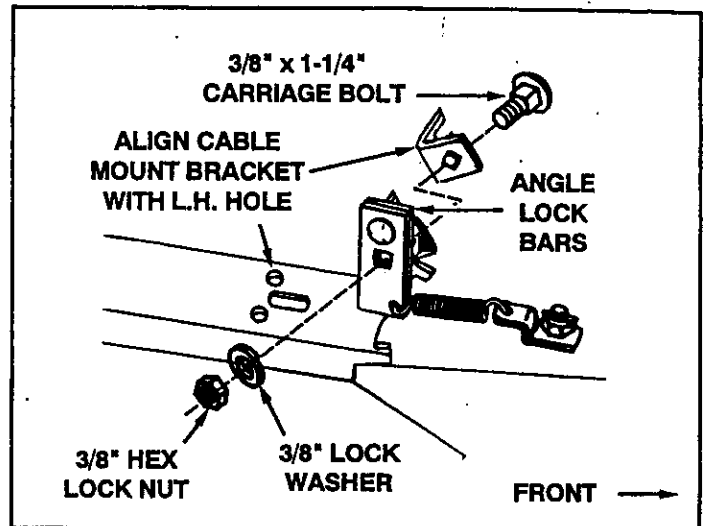
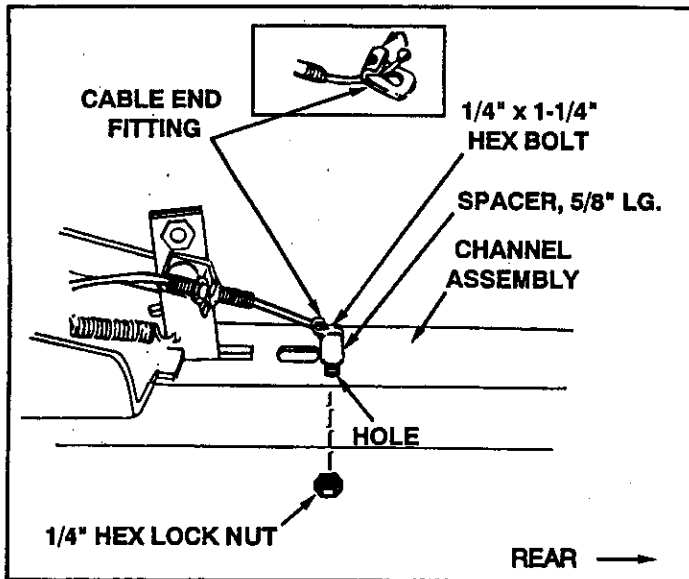

FIGURE 10 (Right Hand Side View)
FIGURE 12 (Left Hand Side View)
- Assemble a 3/8" x 1-1/4" carriage bolt through the square hole in the cable mount bracket and through the square hole in the angle lock bars as shown in figure 10. (The carriage bolts should face in opposite directions.) Using pliers hold the cable mount bracket in position, angling down towards the L.H. hole in the channel as shown in figure 10. Secure with a 3/8" lock washer and a 3/8" hex lock nut. **Tighten**. See figure 10. Refer also to figure 12 for the correct angle for the cable mount bracket.
- Assemble ball end of control cable up through hole in cable end fitting and pull until ball slips inside curled edge of fitting as shown in figure 12. If ball won't slip under edge of curl it will need to be inserted through open end of curl. See figure 12.
- Assemble 1/4" x 1-1/4" hex bolt down through the cable end fitting, the 5/8" long spacer and the left hand hole in the channel assembly. Secure with a 1/4" hex lock nut. See figure 12. **Tighten.**
NOTE: Make sure the cable mount bracket is aligned with the cable end fitting as shown in figure 12 to prevent binding of cable. The other end of the control cable will be attached in a later step.